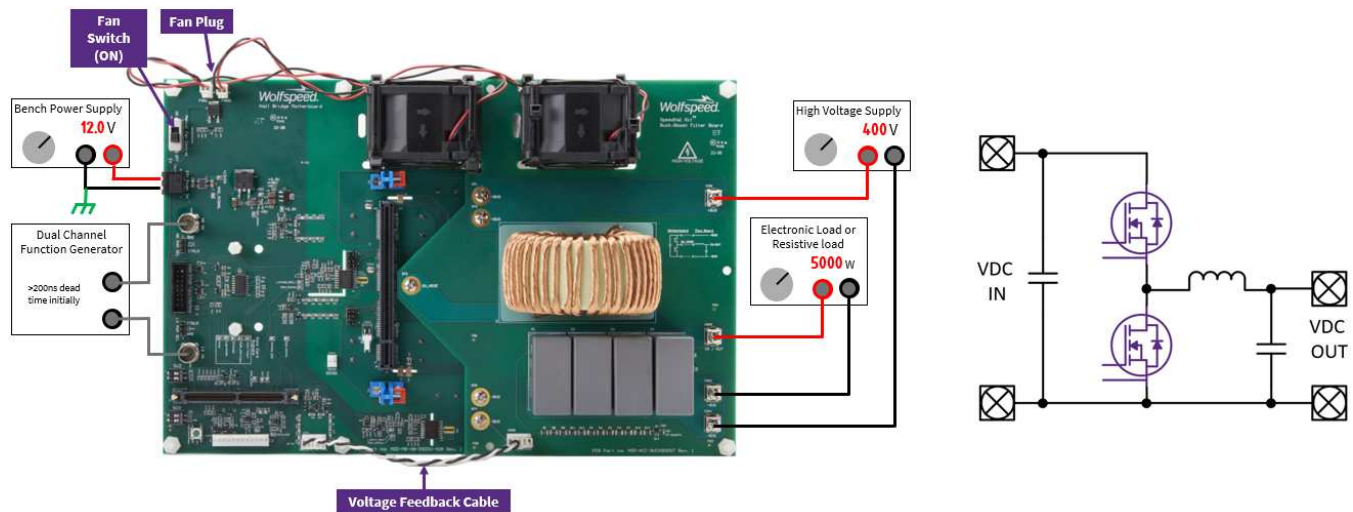

Figure 53: Connection Diagram for Synchronous Buck Converter
- Connect buck/boost filter board to the motherboard using the 5 screws and terminal nuts on the motherboard (Figure 53).